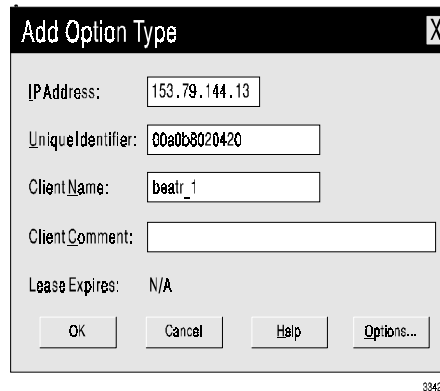

Figure 11. Client Properties Screen
- c. Select Properties (Figure 11 displays).